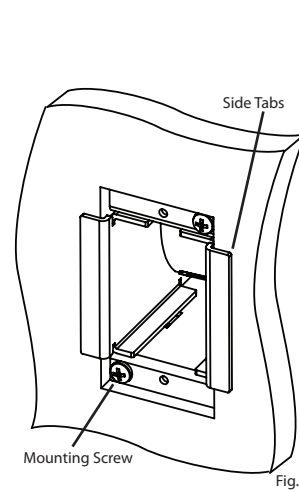

Fig. 4
14. While keeping the **Side Tabs** pressed against the mounting surface, secure the Minibox to the mounting surface by tightening the two **Mounting Screws** (Fig. 4).